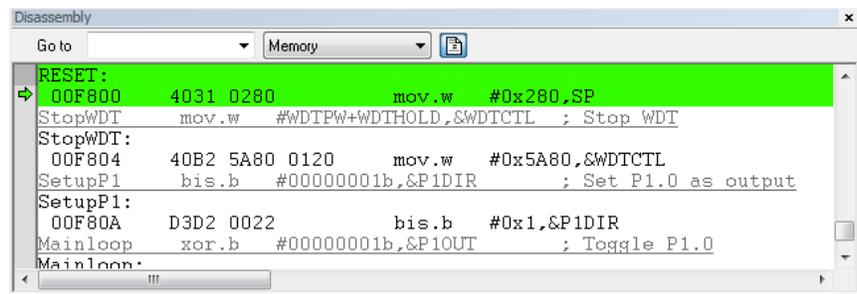

Figure 1.19: Disassembly window.
3. Go to the Disassembly window and type 0xF800, the address shown in the first ORG statement in your program in line 3, in the Go to textbox. You should see something like what is shown in Figure 1.19: